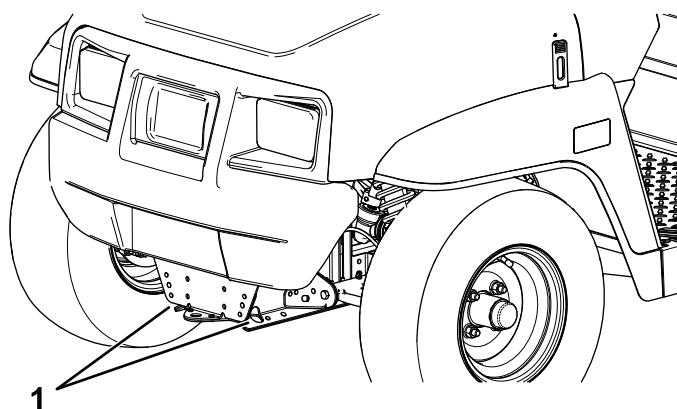
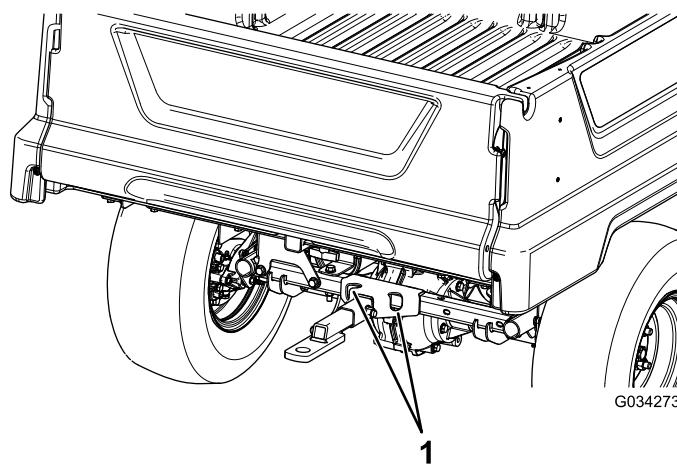

Figure 25
Figure 26
Refer to Figure 25 and Figure 26 for the tie-down locations on the machine.
2. Affix a tow line to the tongue at the front of the machine frame (Figure 25).